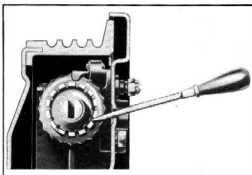

Fig. 12—Adjusting Brakes Through Slot in Flange Plate
3. Remove the adjusting hole covers and insert a screwdriver through the adjusting hole and engage the teeth on the adjusting cover of the wheel cylinder, Fig. 12.